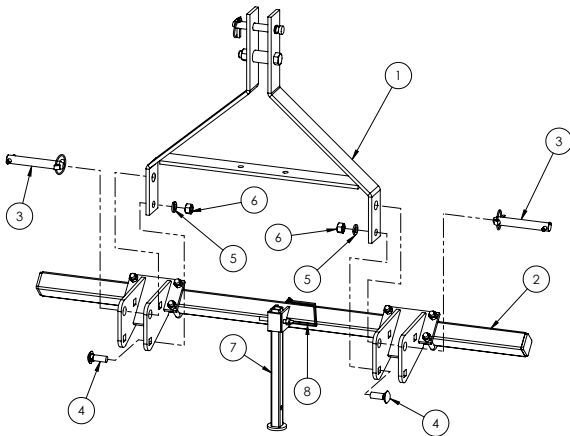

Figure 5. CP-48L, CP-72L
1. Remove the A-Frame Figure 5 (Ref. 1), frame with roller assembly attached (Ref. 2, roller assembly not shown) and parking stands (Ref. 7) from packaging.